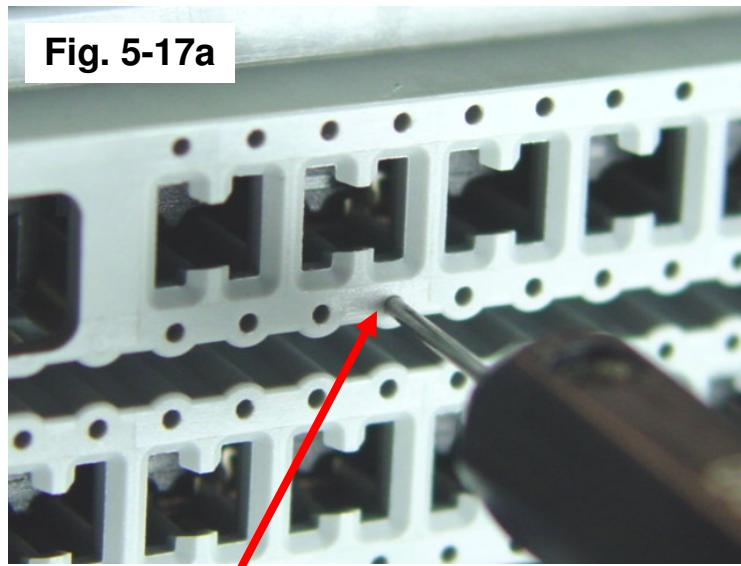
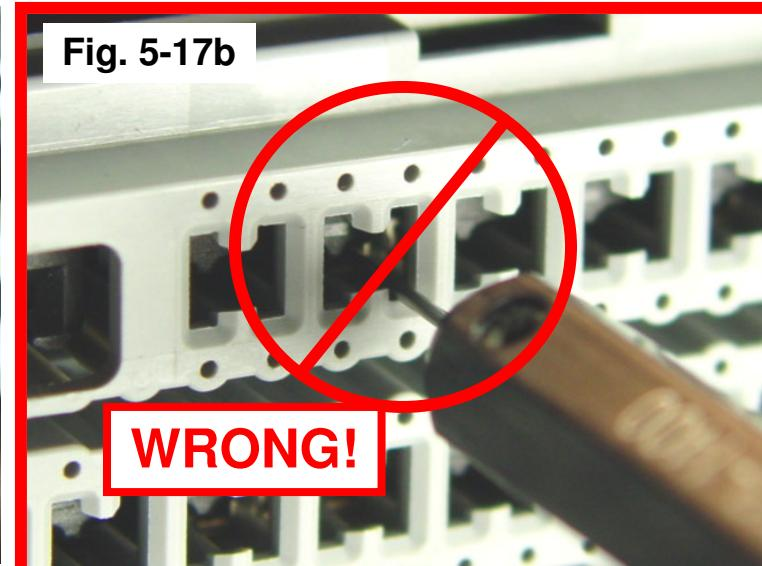

Fig. 5-17a
Fig. 5-17b
- Fig. 5-17a shows proper insertion of the service tool. Avoid inserting the service tool into the terminal opening (Fig. 5-17b) as this may damage the terminal.